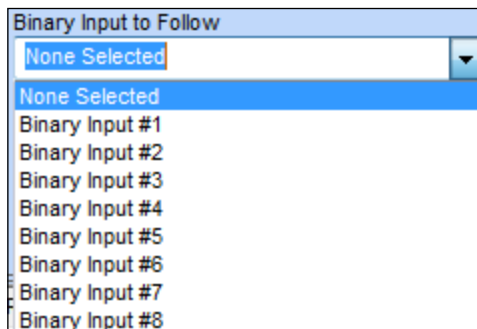

Figure 44: Binary Input to Follow
- **Follow Active/Inactive Binary Input Options** – If one of these options is selected, you must then go to the **Binary Input to Follow** field (see Figure 44, page 25)—and select which Binary Input this Relay Output will be associated with. If the Follow Active Binary Input is selected, this relay will energize when the selected Binary Input is Active. If the Follow Inactive Binary Input is selected, this relay will energize when the selected Binary Input is Inactive. For example, if the Main Control Method is “Follow Active Binary Input” and the Binary Input chosen is configured “N/O Contact (Closes for Active)”, then this relay will be energized when 24 VAC is applied to the binary input and the N/O contact closes (Active). If the Binary Input chosen is “N/C (Opens for Active)”, then this relay will be energized when 24 VAC is removed from the binary input and the N/C contact opens (Active).
You can configure this relay to energize whenever a selected Binary Input is Active/Inactive. If the Control Method you configured for this relay is “Follow Active/Inactive Binary Input” (see Figure 36, page 22 for more detail), you need to select which Binary Input will cause this relay to energize in the appropriate condition. See Figure 44 below. The Binary Input does not require a physical contact closure to become active. It can follow a global broadcast or some other event as noted in the Binary Input Configuration section (pages 18 & 19).